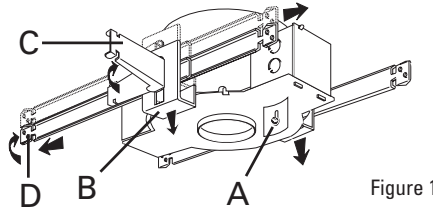

Figure 1
1. Open lever (C) securing bar hangers- bend ends of hangers 90° (D) to be used as nailing tabs, center in the vertical slot, and close lever (C) to lock; repeat on opposite side. Refer to Figure 1.